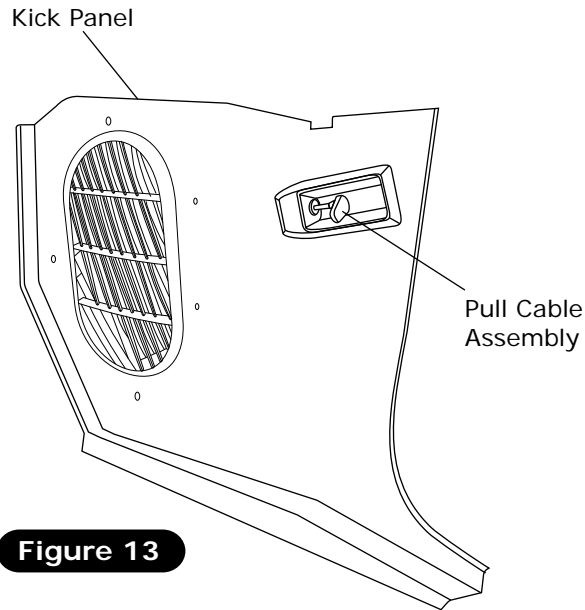

Figure 13
1. Disconnect pull cable assembly from kick panel (discard) (See Figure 13, below).